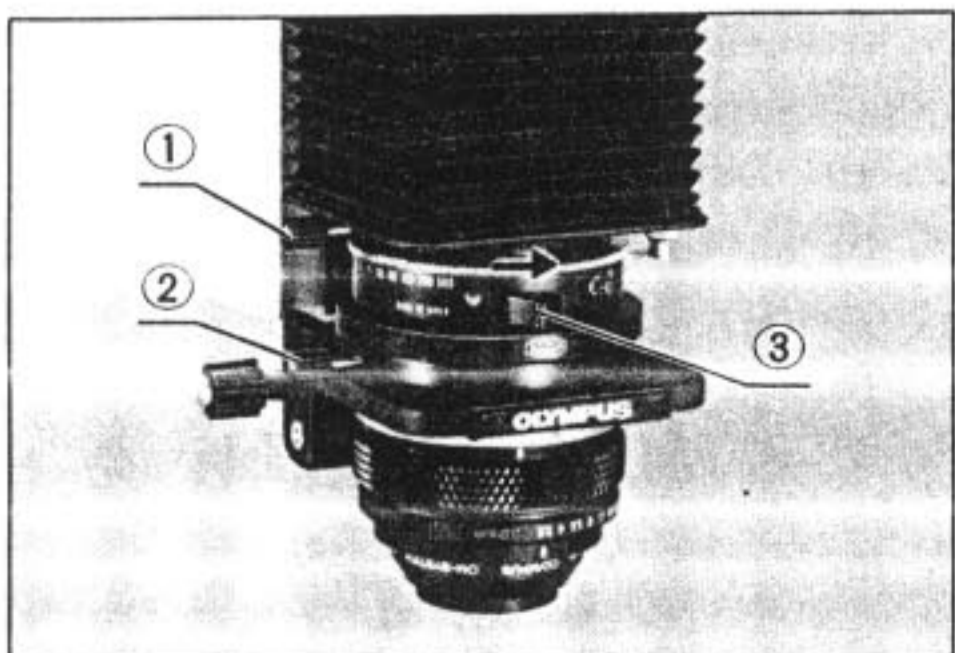

Fig. 5
Loosen the bellows clamping knob ① and remove the bellows; then insert the shutter between the bellows lower end and the photo lens holder. Tighten the clamping screw ② which should be positioned at your left hand side. Leave the shutter open by turning the shutter lever ③ to the right (in the direction of the arrow). (Fig. 5)